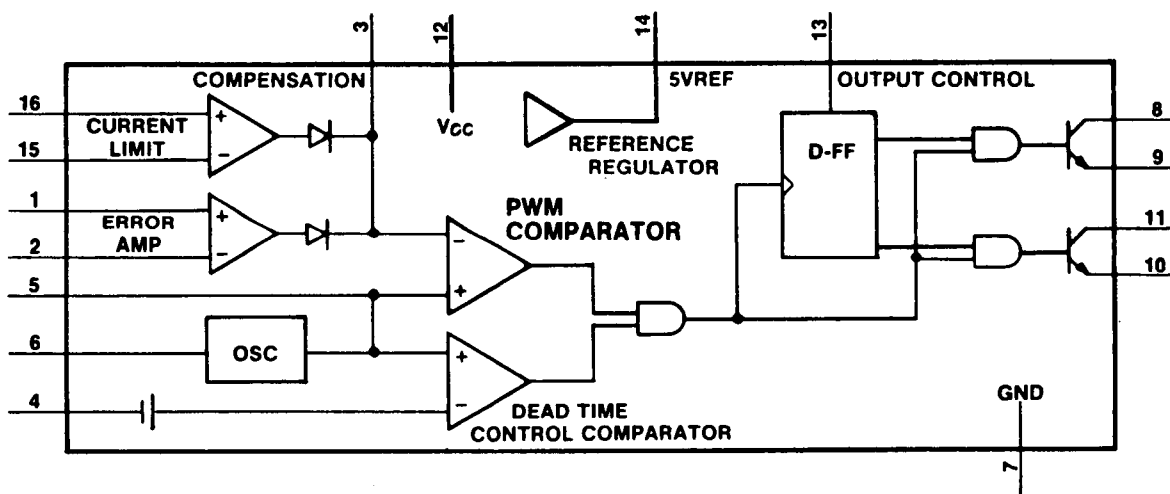

Figure 8-1-2 Functional Block Diagram of a PWM
PWM Overview (see Figure 8-1-2 Block Diagram PWM)
The actual current limit value is determined by sensing the DC voltage developed across the internal resistance of L5 (schematic 1D ④/⑤). Current limiting is done by comparing this voltage with the reference voltage at pin 16 of U1. If the + CL input of the internal comparator (U1/16) goes higher than the -CL input (U1/15), determined by the divider R70/RA1 connected to +5 Vref, the PWM's internal comparator output (refer to Fig. 8-1-2) goes more positive and reduces the width of the output pulses. This then results in a reduction of the output current.